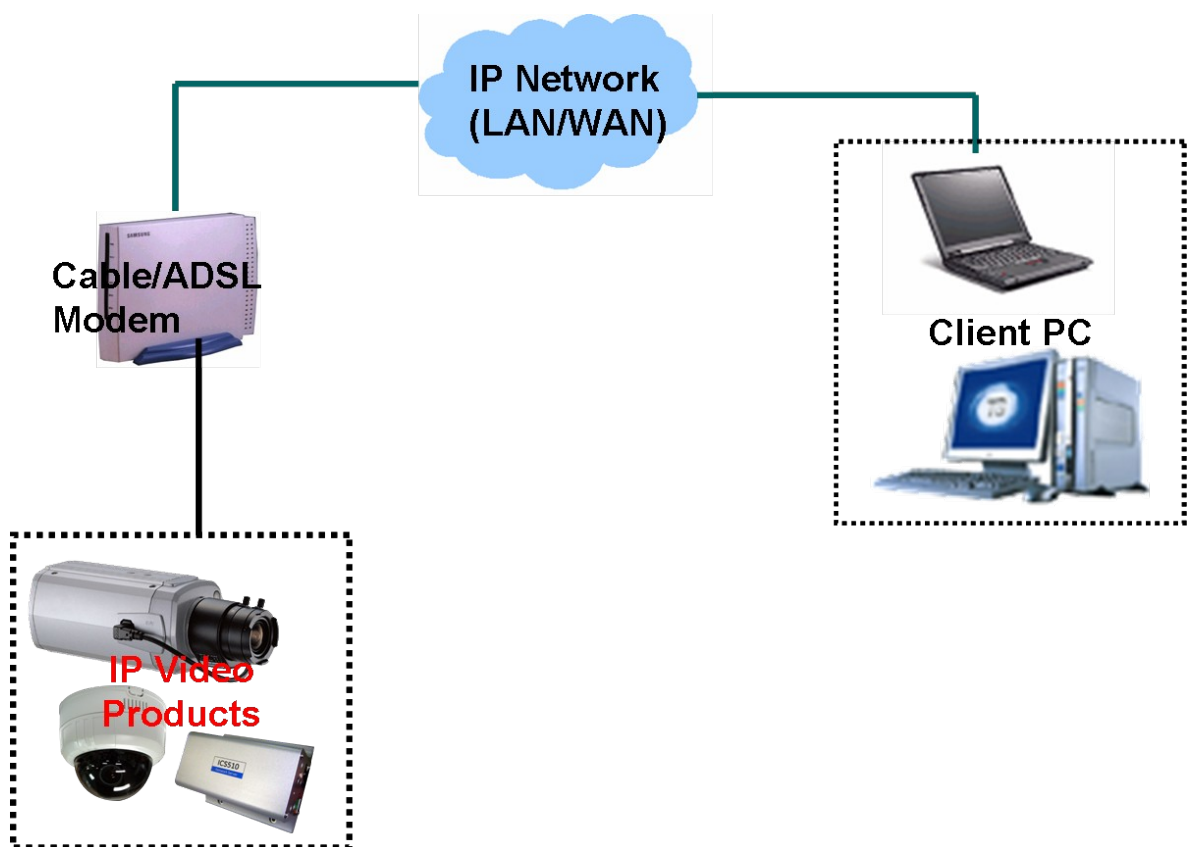

Figure 3-2. Connecting the iCanView230/230W to ADSL Modem
2. Install iCanView230/230W and connect it to xDSL or Cable modem as in Figure 3-2.